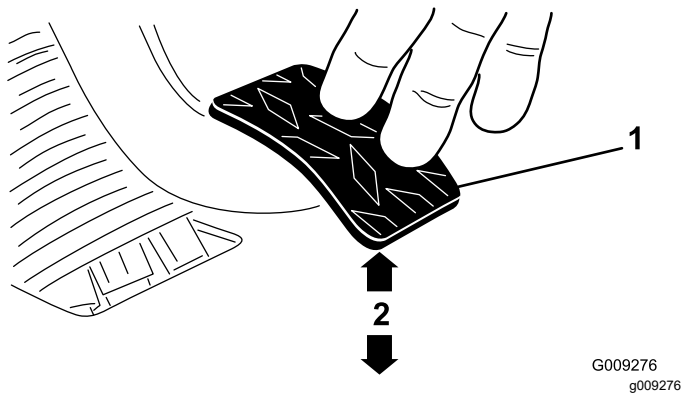

Figure 64
3. Adjust the jam nuts or ball joint until the rear edge of the clutch pedal is 9.2 to 9.8 cm (3-5/8 to 3-7/8 inches) from the top of the floor plate diamond pattern, when you apply 1.8 kg (4 lb) of force to the pedal (Figure 64).